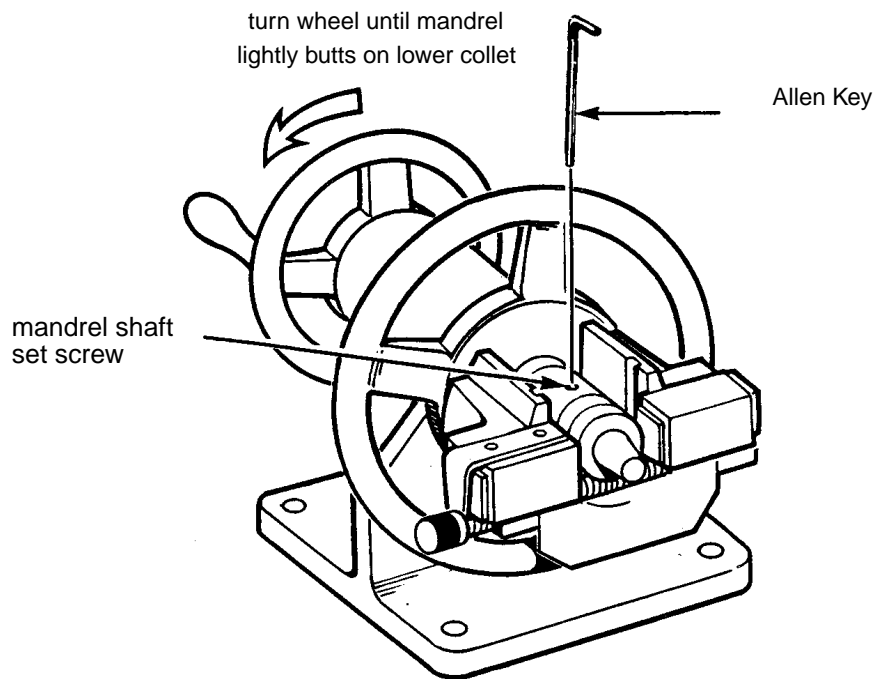

Figure 3 - Locking Mandrel in Place
- Step 3. Advance the mandrel shaft until the mandrel lightly butts against the lower collet. Ensure that the mandrel is correctly seated in the mandrel shaft and then lock the mandrel shaft set-screw with an Allen key (see Figure 3).